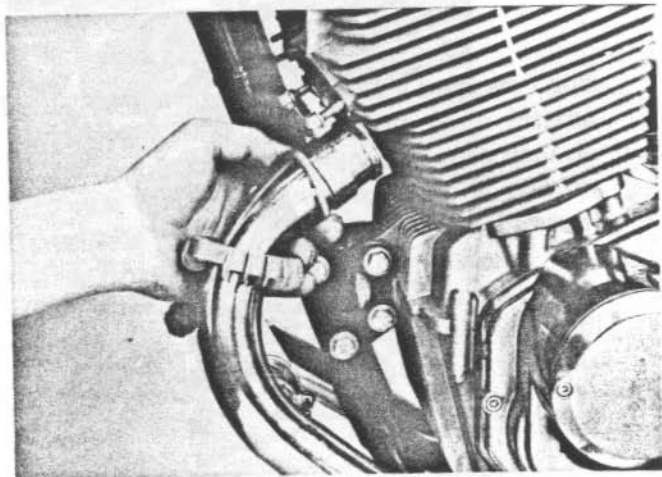

Fig. 24
- 4) Tirare in avanti i tubi di scarico recuperando i 4 semianelli e le guarnizioni (Fig. 24).
- 4) Move the exhaust pipes towards the front wheel and remove the four split rings and the exhaust pipe gaskets (Fig. 24).